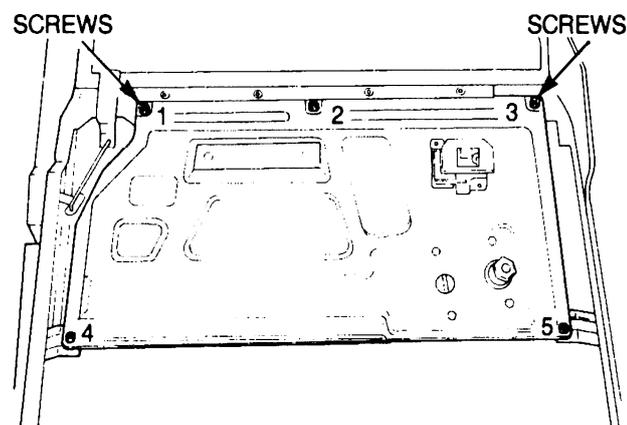

Figure 215 Door Inner Panel Removal
- q. Remove the screws securing the inner panel (Figure 215).